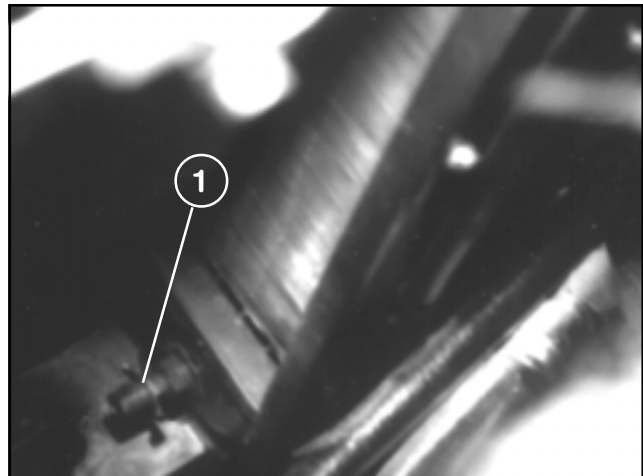

FIG. 39
CHANGING ENGINE COOLANT (FIG. 39)
3. Open coolant drain cock at bottom of radiator and allow coolant to flow into drain pan. When coolant stops, close drain cock. (FIG. 39)